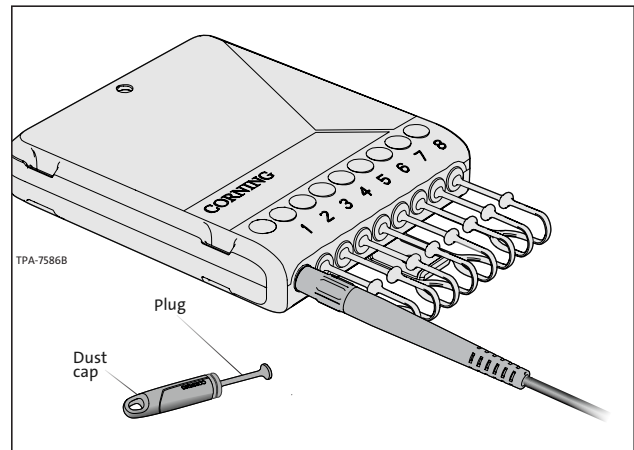

Figure 7
**Step 7:** Connect the terminal port dust plug with the connector dust cap (Figure 7).